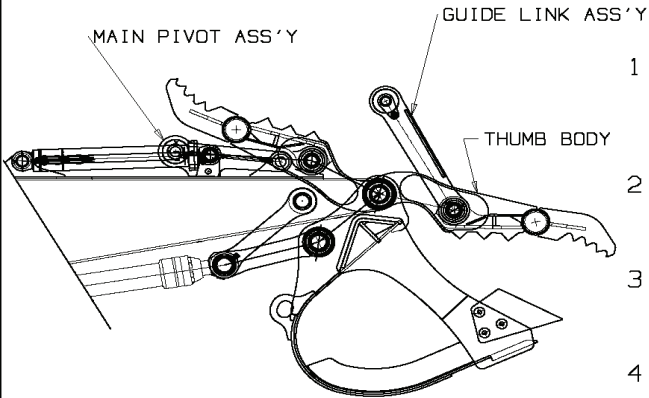

FIGURE 1
4. With the thumb attached to stick attach Guide Link Ass'y to thumb body and swing thumb back and attach to Main Pivot Ass'y to properly align and to maintain the correct distance for Base Link Ass'y on stick as shown in figure 1.
5. Tack weld Base Link Ass'y as shown in figure 1.